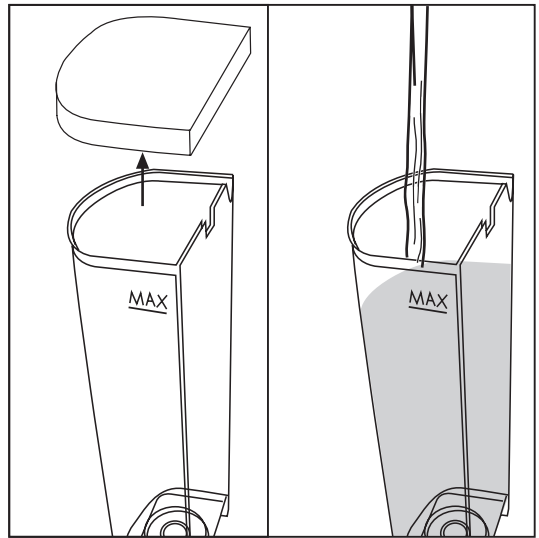

Fig. 2
- Remove the cover and fill the tank with fresh water to maximum level 1 l. **(Fig.2)**